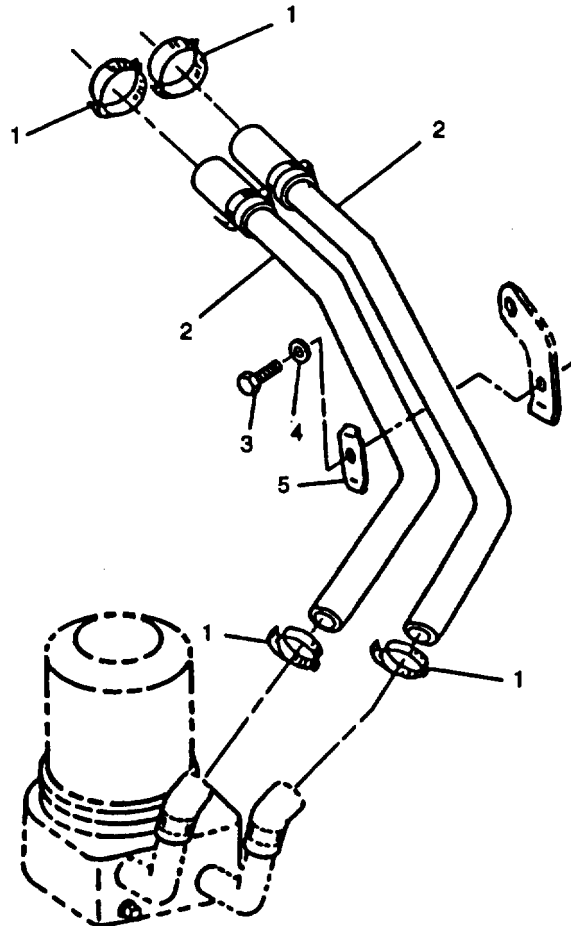
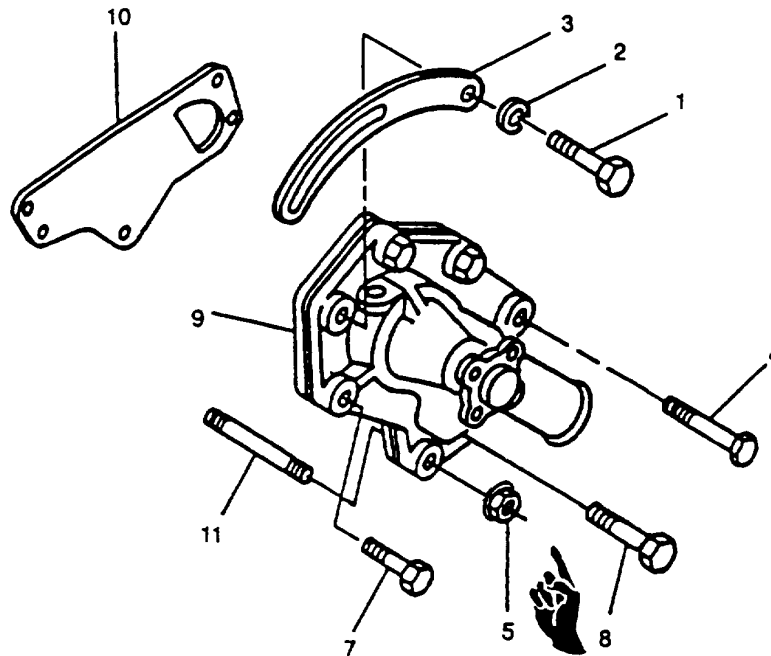

FIGURE 3-3. Engine Oil Cooler Hoses
FIGURE 3-4. Water Pump Assembly
- c. Loosen four hose clamps (1, FIGURE 3-3) and disconnect cooler hoses (2) at water pump.
- d. Remove screw (3) and washer (4) and remove clamp (5). Disconnect and remove hoses (2).
- h. Remove capscrew (1, FIGURE 3-4) and lockwashers (2) attaching alternator adjusting strap (3); move strap out of the way. Discard lockwasher.
- b. Inspect pump housing and stud (1), FIGURE 3-4 for cracks, corrosion, or any other damage.
- b. Position new gasket (10, FIGURE 3-4) and water pump (9) on engine block and secure with capscrews (4, 7, and 8), and nut (5). Tighten fasteners to 35 ft-lbs (47 Nm).
- c. Position alternator adjusting strap (3) and secure with capscrew (1) and new lockwasher (2). Tighten capscrew to 35 ft-lbs (47 Nm).
- g. Install two oil cooler hoses (2, FIGURE 3-3) and secure to water pump and engine oil cooler with four hose clamps (1). Install clamp (5) with screw (3) and washer (4).